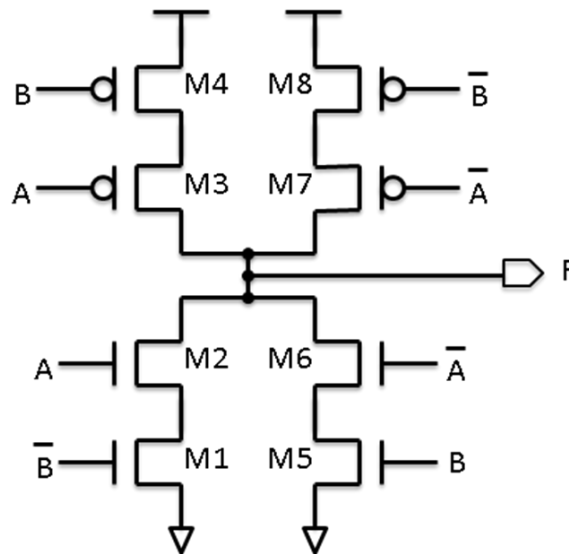

Fig. 2 Complex Gate
- (a) Draw the truth table and determine the logic function of the complex gate shown in Fig. 2. (10 pts)